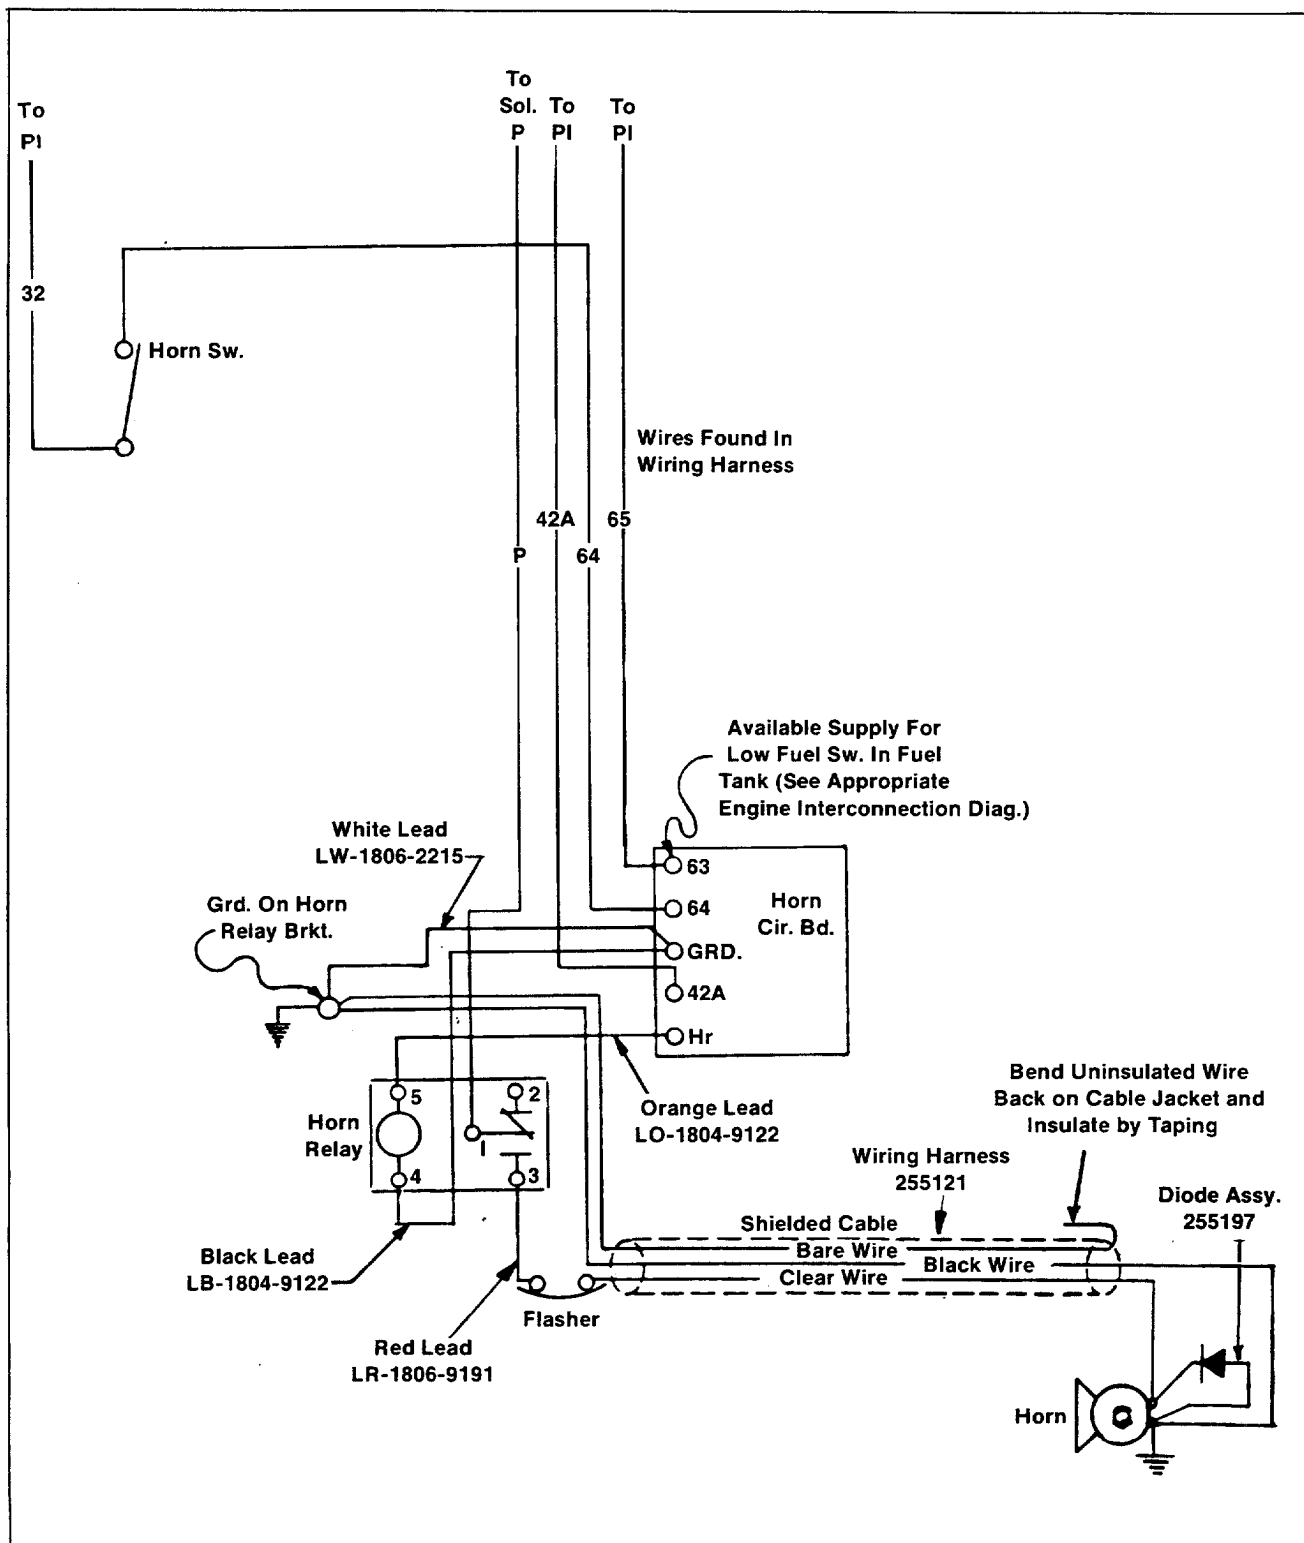

Figure 4. Wiring Diagram (Solid-State Model)
12. See Figure 4 or 5 to connect remainder of alarm horn wiring.
Several wires not listed are also part of the generator set wiring harness shown in Figures 4 and 5.